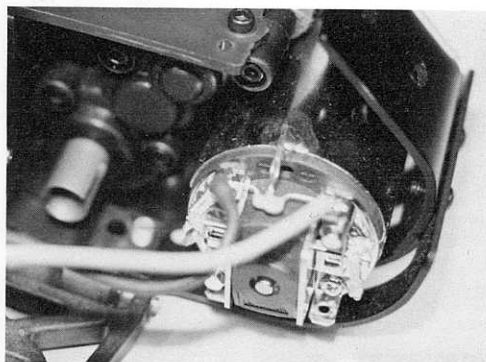

Fig. 117
□ **Figs. 117, 118 & 119** 1) If you have a bushing kit you will have a motor bag inside the master kit bag. Open the motor bag and remove the two #6515 3mm x 6mm gold colored socket head cap screws and two #6936 #4 aluminum flat washers. These are the motor mounting screws. You will note that they are metric threads which are different from all other screws in our kit. **Note: If you have a ball bearing kit you will find the two #6515 gold screws and two #6936 washers in a small bag loose inside the kit master bag.**